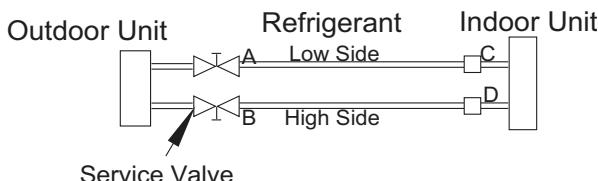

Fig. 17 – Service Valve
- 1 Completely tighten the torque flare nuts A, B, C, D, connect manifold gage charge hose to a charge port of the low side service valve (see Fig. 17).